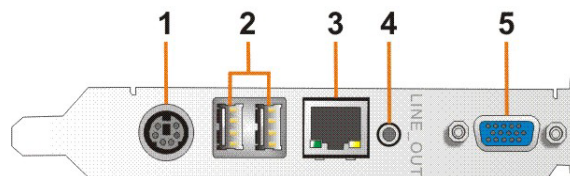

Figure 3-20: ROCKY-6612 CPU Board Rear Panel
Figure 3-20 shows the ROCKY-6612 CPU board rear panel. The peripheral connectors on the back panel can be connected to devices externally when the CPU card is installed in a chassis. The peripheral connectors on the rear panel are:
- CN Location:** See Figure 3-20 (labeled number 1)
- CN Location:** See Figure 3-20 (labeled number 2)
CN Location: See Figure 3-20 (labeled number 3)
Connect an audio device to the line out connector on the rear panel (**Figure 3-20** labeled number 4).
CN Location: See **Figure 3-20** (labeled number 5)